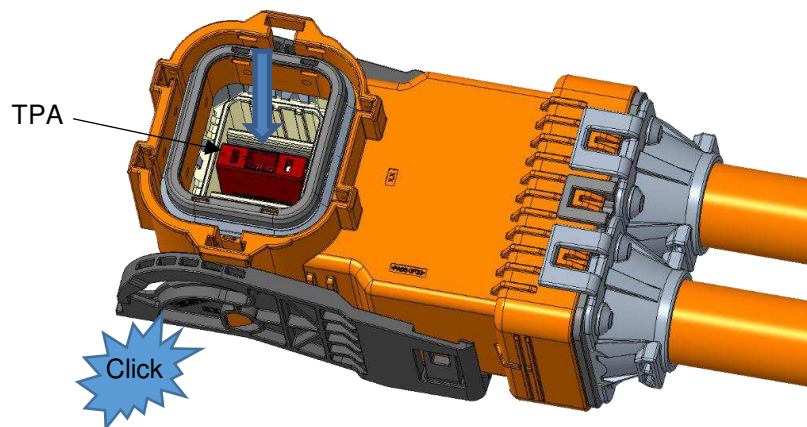

Figure 14: Close TPA
13. Push TPA to final position as shown in Figure 14.